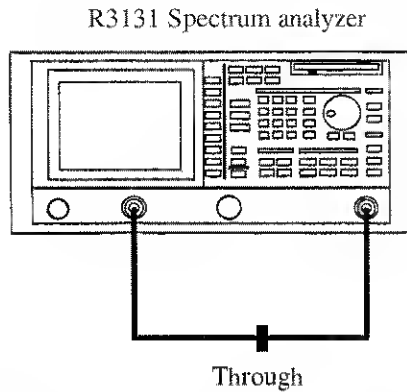

Figure 2-77 Setup for TG Measurements
1. Connect the unit under test as shown in Figure 2-77.